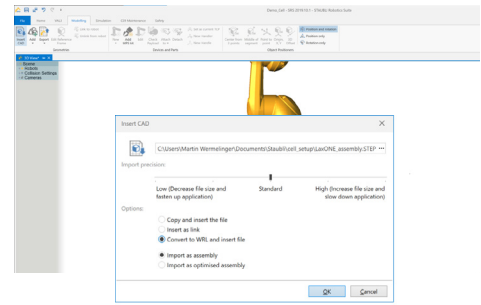

Figure 13
- ▶ Insert the sensor assembly (Rokubi_assembly.wrl) **[Figure 13]**